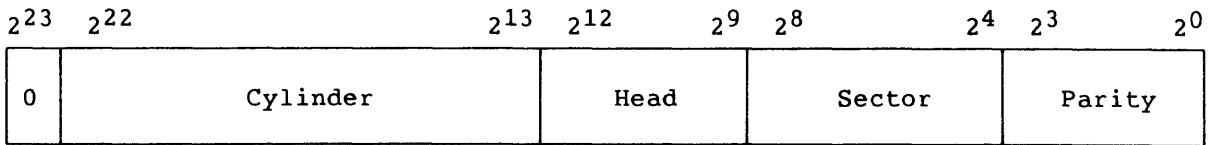

Figure 2-2. Sector ID Format
The sector identification (ID) word for each sector is 24 bits. It is composed of a cylinder number, a head-group number, a sector number, and four parity bits. The ID format is shown in figure 2-2.